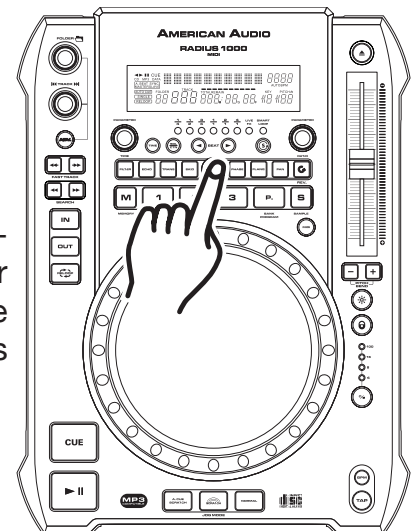

Figure 51
HOLD BUTTON: Use the *HOLD BUTTON* (26) to lock your customized parameters. If the hold button is not activated any changes to your parameters will be momentary. To activate the hold function press the *HOLD BUTTON* (26) as in figure 51. When the hold function becomes activated, the hold button will begin to glow blue.